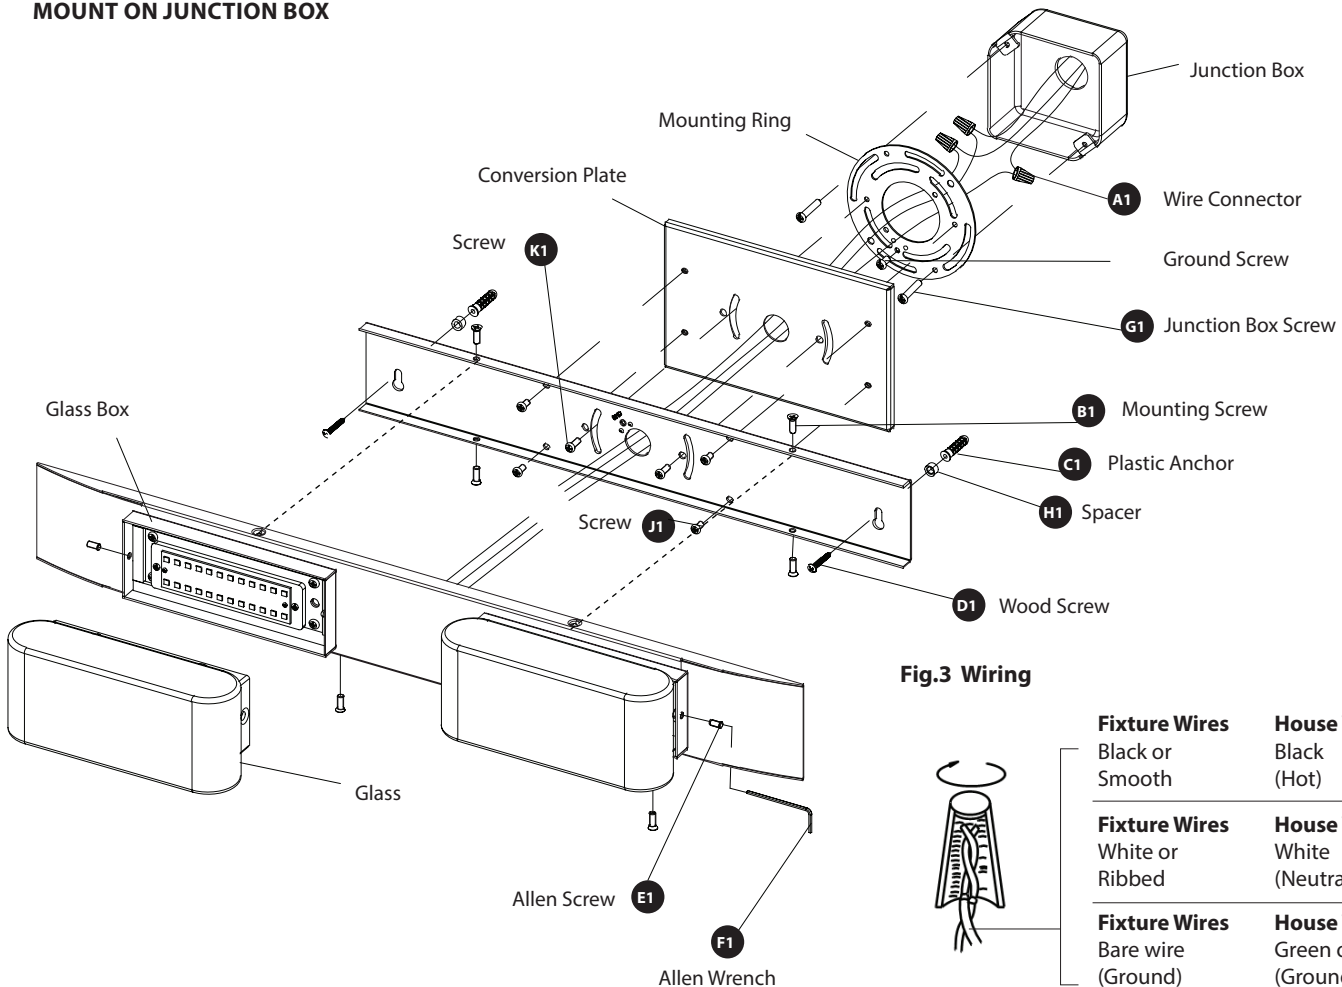

Fig.3 Wiring
5. Connect the fixture wire to junction box wires as shown in **Fig. 3**, making sure that all wire connectors (A1) are secured.